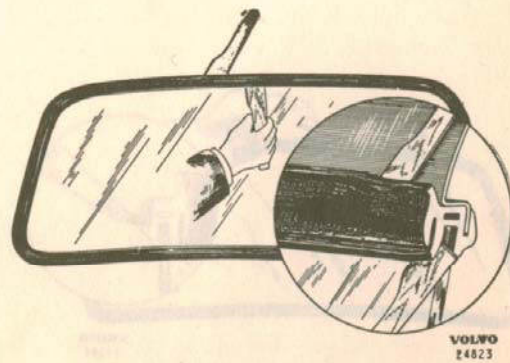

Fig. 11-16. Removing rubber strip
2. Remove the rubber strip adhesive from the body and window glass with the help of the putty knife, see Fig. 11-16.